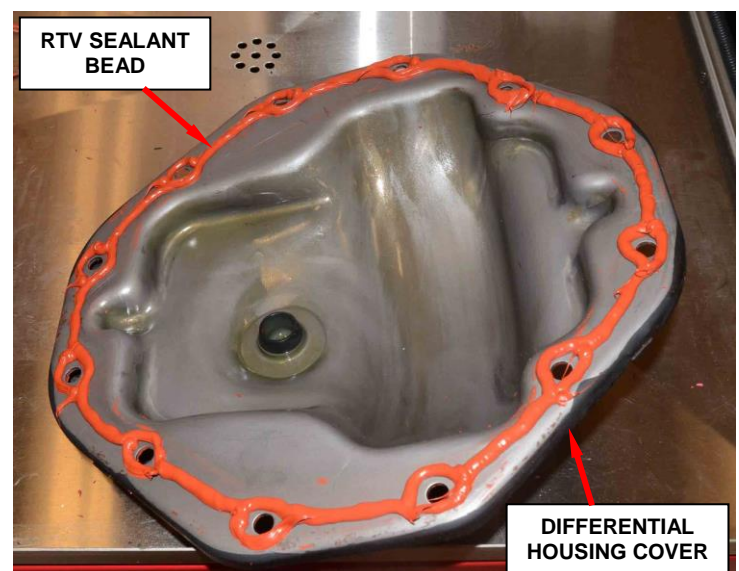

Figure 11 – Apply Mopar Axle RTV Sealant
25. Apply a ¼ inch (6.35mm) bead of Mopar Axle RTV Sealant to the cover with the RTV sealant bead to the inner side of the bolt holes (Figure 11).